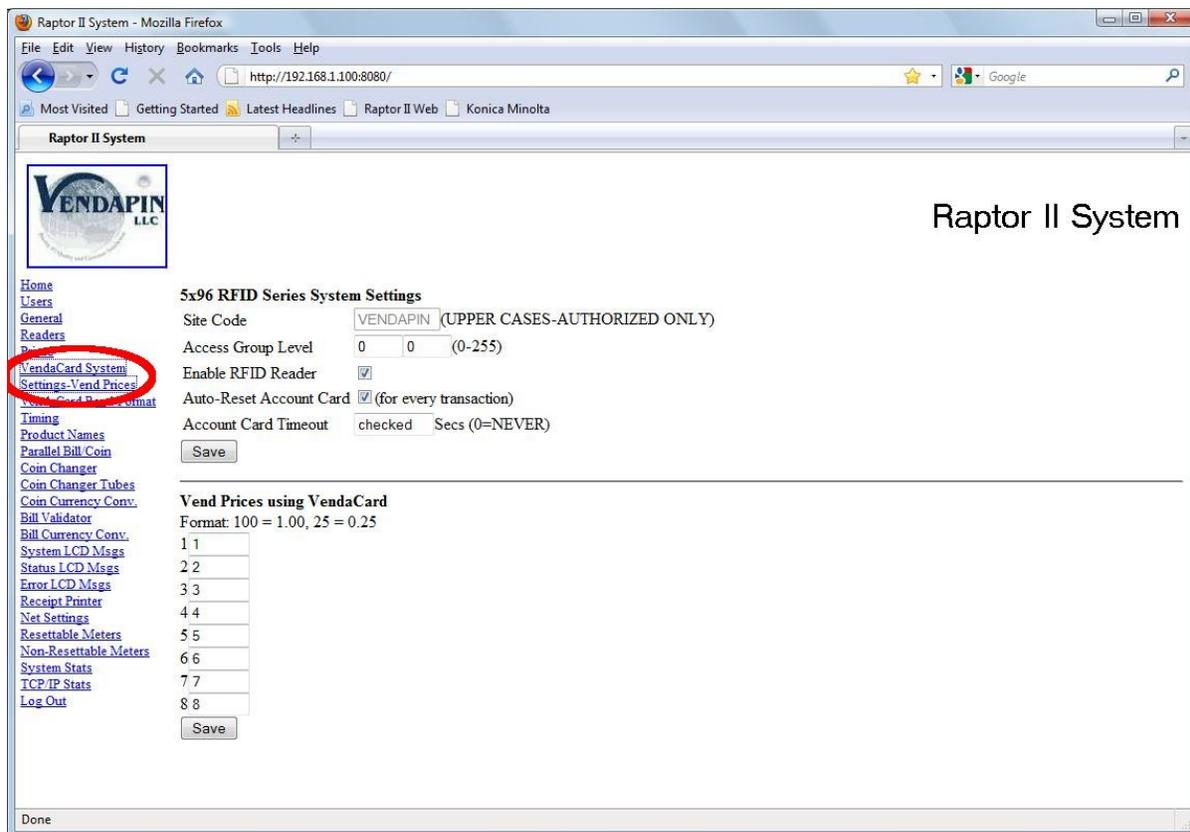

Figure 24:
1. Click on the **VendaCard System Settings-Vend Prices** link. Figures 24.